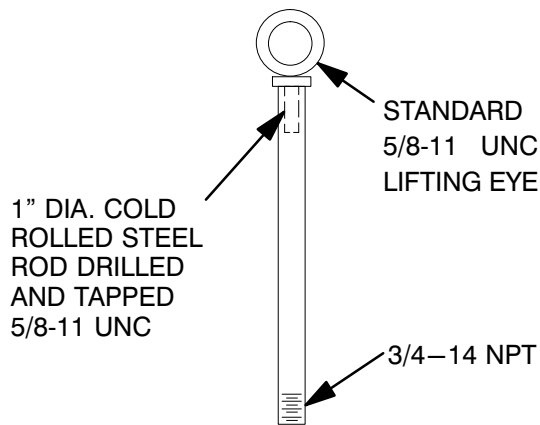

Figure 7. Casing Removal Tool
If the discharge port is in a horizontal position, fabricate a lifting device as shown in Figure 7 and screw it into the hole for the pipe plug (3). **Make certain** that the threaded end of the tool fully engages the threads in the casing. Use a suitable sling and hoist to remove the casing.